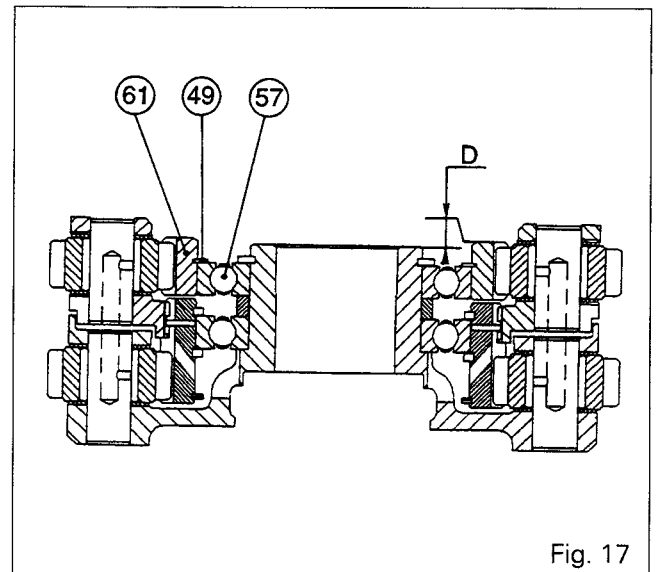

Fig. 17
On the planetary carrier assembly (Fig. 17)
75. Position new O-rings (32) and (68) on the reverse shuttle housing (40). Screw two guide studs in diametrically opposite position.
76. Using a sling, refit the assembly comprising the primary shaft (7), cover (13) and housing (21) (Fig. 17), taking care to align the lubricating channel.
78. Take out the guide studs. Fit the bolts (30) and tighten them to a torque of 72 to 96 Nm.